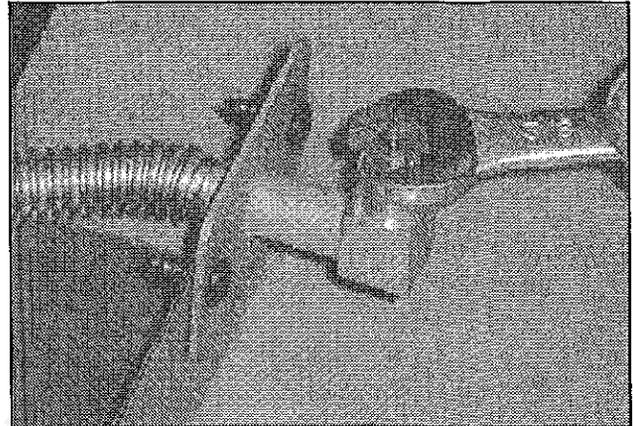

Figure 5.4 Remove the Burner Orifice - GB Series
- Using a 3/8 in. wrench, loosen and remove the existing orifice and discard. See Figure 5.4.